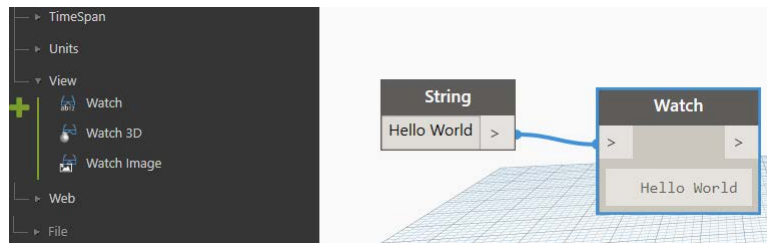

Figure 13
11. Drag it to the right of the **String** node and then wire the output of the **String** to the input of the **Watch** (see Figure 13).